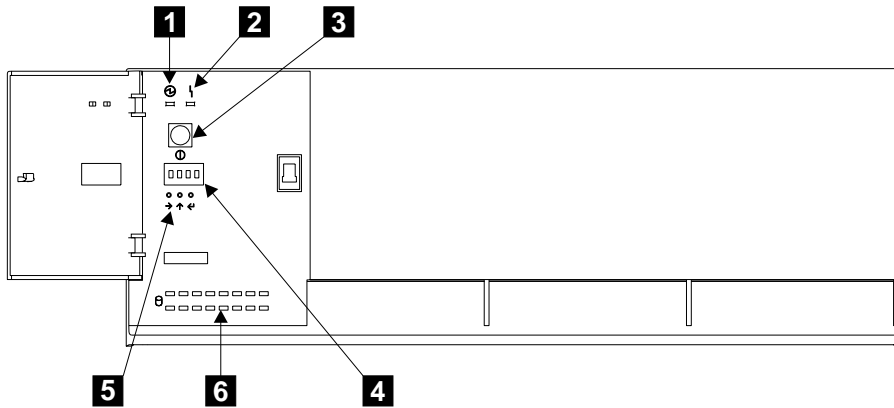

Figure 40. Checking the Lights and Switches
Step 5. Refer to Figure 40.
When the configuration is complete, observe the 7133, and check whether the lights and the display are as described here (refer to Figure 40 on page 58):